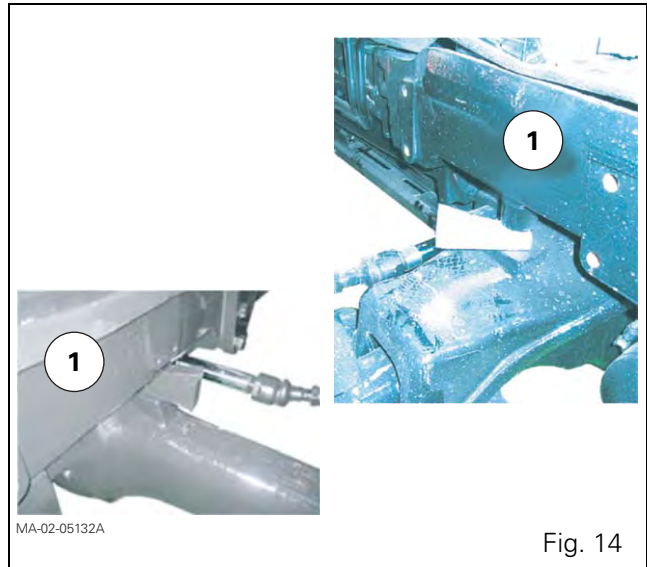

Fig. 14
60. Cancel the front axle oscillation (all versions) by sliding a suitable chock in at each side of the front frame (1) (Fig. 14).